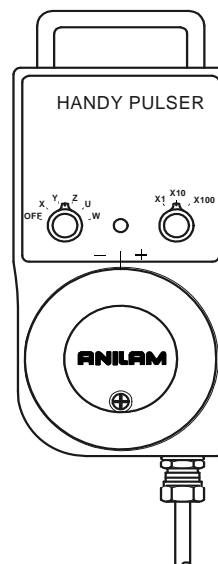

Figure 3-57, Handy Pulser
1. Locate the preassembled Handy Pulser and the shoulder bolt. Refer to **Figure 3-57**.